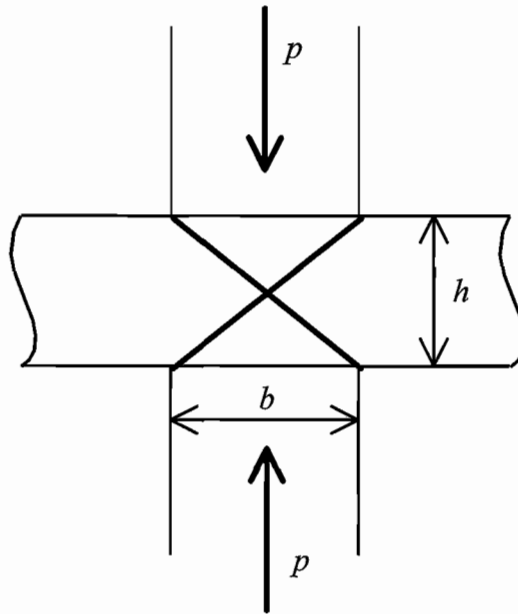

Figure 1
3. Figure 1 shows a possible deformation mode for the plane strain compression of a wide rigid-plastic plate of thickness h between frictionless parallel dies of width b .